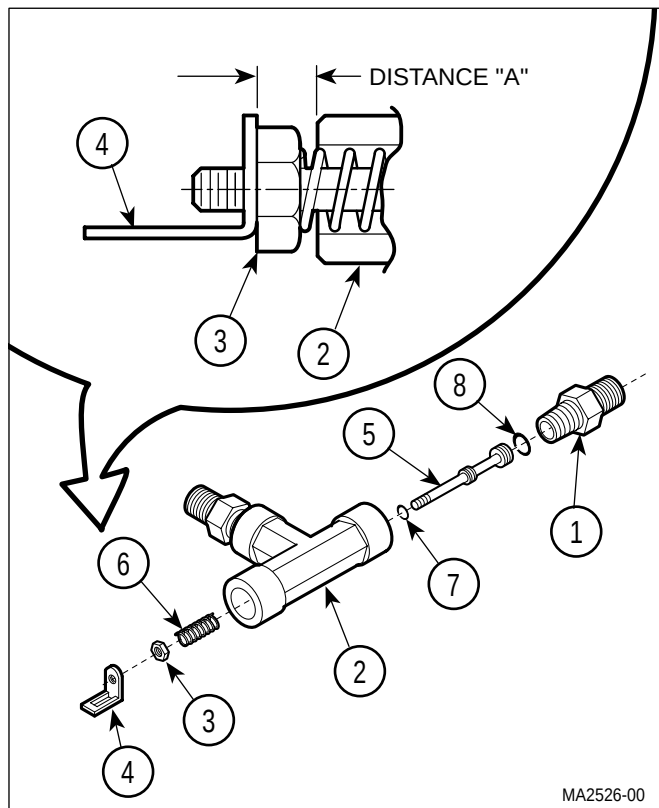
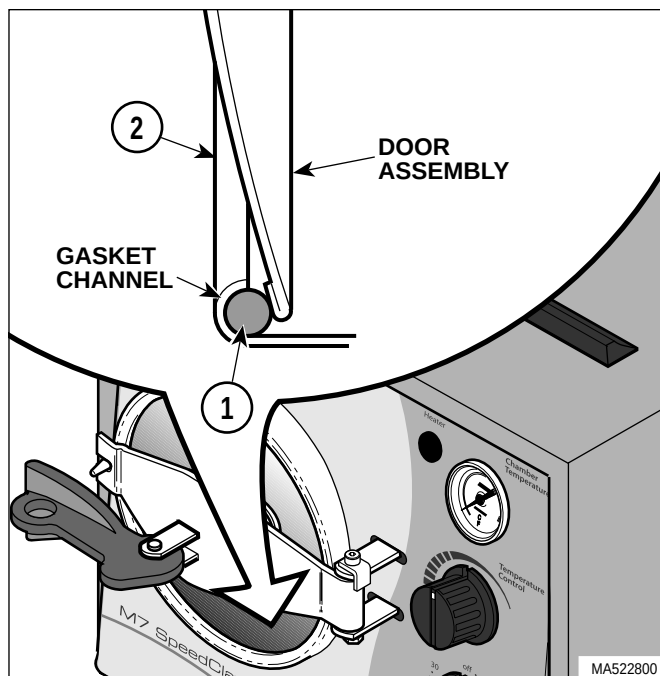

**Figure 4-15. Fill / Vent Valve
Figure 4-18. Door Gasket Removal / Installation
- (1) Remove fitting (1, Figure 4-15) from valve body (2).
- (2) While holding nut (3) stationary, unscrew closing bracket (4) from plunger (5).
- (3) Remove nut (3) and spring (6) from plunger (5).
- (4) Push plunger (5) out of valve body (2).
- (5) Remove two o-rings (7 and 8) from plunger (5).
- (1) Install fill / vent valve assembly (2, Figure 4-18) in brackets (4), making sure fill / vent lever (3) is inserted in slot of closing bracket.
- (2) Position tubes (5) and screw compression nuts (1) onto fittings of fill / vent valve assembly (2).
- (3) Install cover assembly (Refer to para 4.2).
- (4) Test operation of fill / vent valve. If water will not flow or flows very slowly when fill / vent lever is depressed, lengthen Distance A slightly. See Figure 4-15.
- (1) Open the door assembly.
- (2) Pry door gasket (1, Figure 4-18) out of gasket channel of chamber (2).